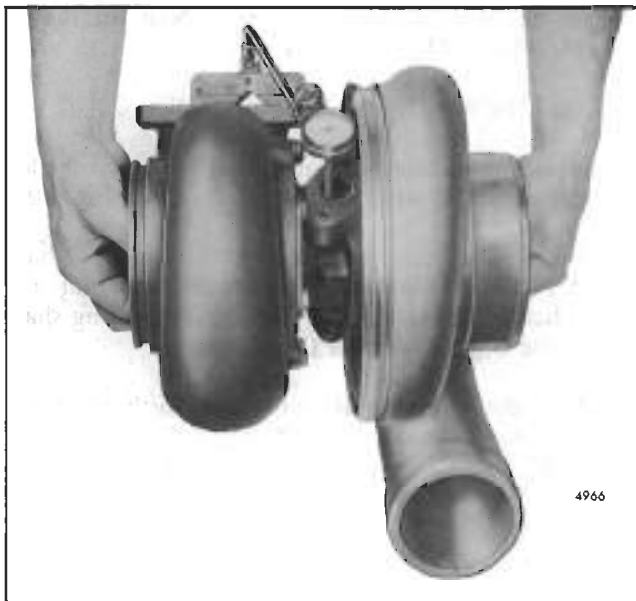

Fig. 11 - Checking Shaft Radial Movement
- a. Position the magnetic base J 7872-2 with the swivel adaptor J 7872-3 on the flat surface of the turbine housing inlet flange as shown in Fig. 11.
- d. Grasp each end of the rotating assembly (Fig. 11) and, applying equal pressure at each end, move the rotating shaft first toward and then away from the dial indicator, creating a transverse movement in the shaft. The dial indicator displacement should be between .003" and .007". If the displacement does not fall within these limits, disassemble and repair or replace the rotating assembly.